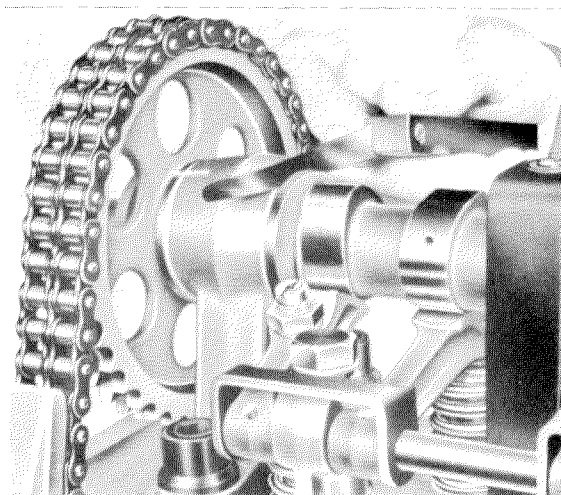

Figure 01-3/11
23. Install the inner guide rail (16) in the cylinder head (see Figure 01-3/9).
24. Provide chain tightener (3) with a new gasket and screw onto the cylinder head **without oil filling** (see Figure 01-3/9).